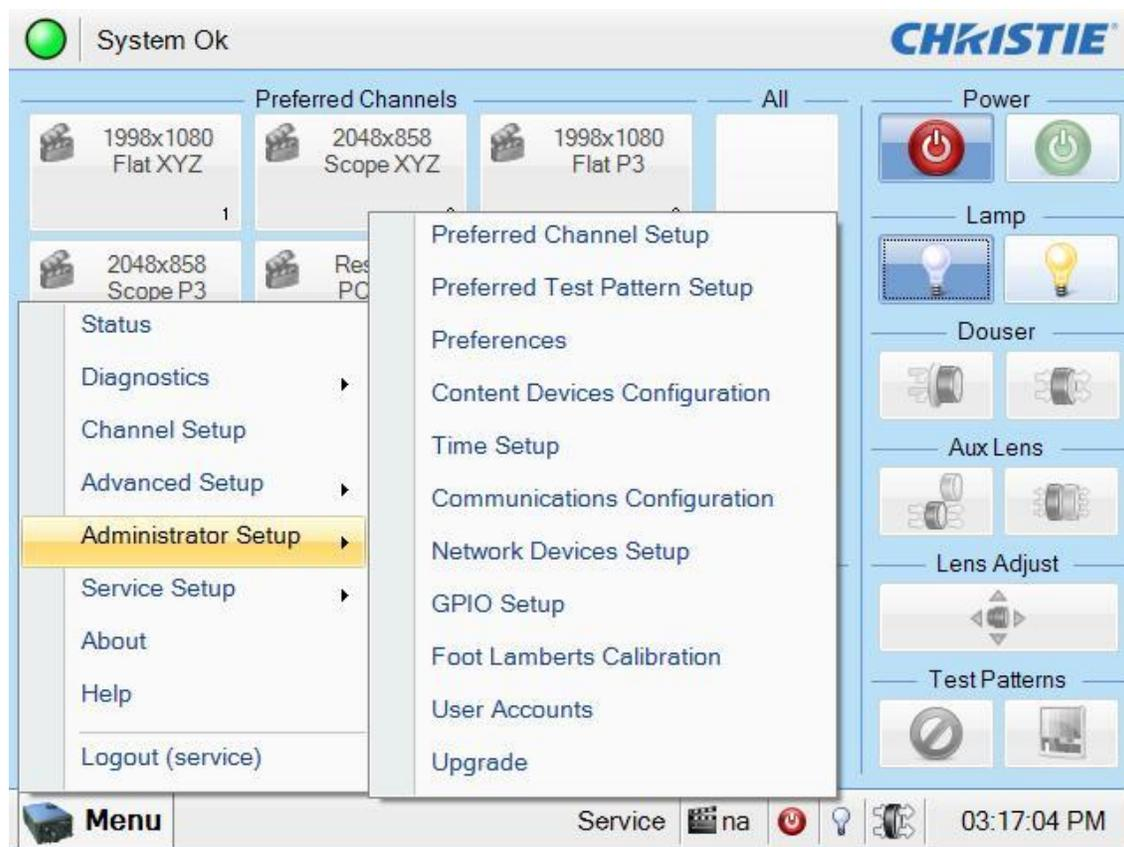

Figura 21: Menu Administrator Setup
- No menu pop-up, selecione Administrator Setup (Figura 21).
- No menu pop-up, selecione Content Devices Configuration (Figura 21).